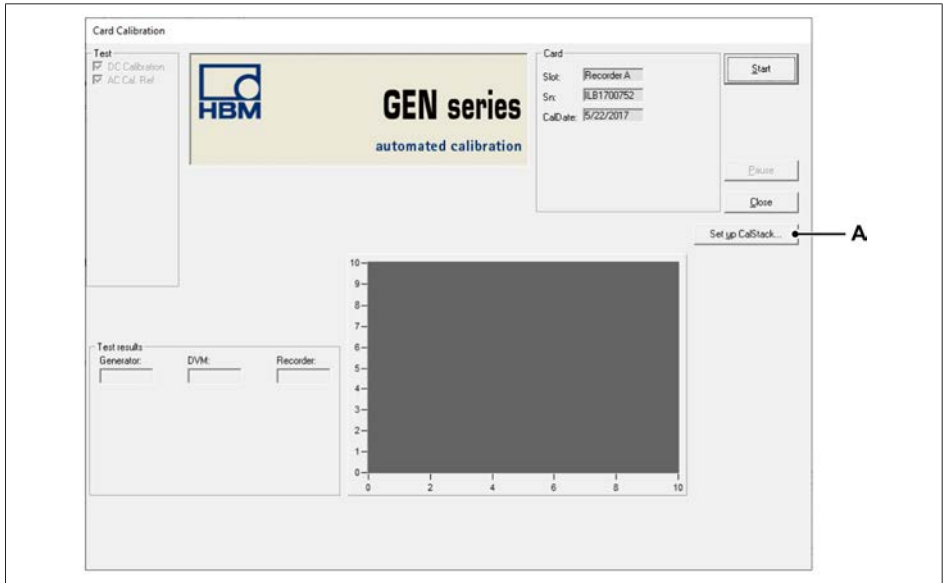

Fig. 4.12 Card Calibration window
1. Click **Calibrate...** to open the Card Calibration window (see Fig. 4.12),